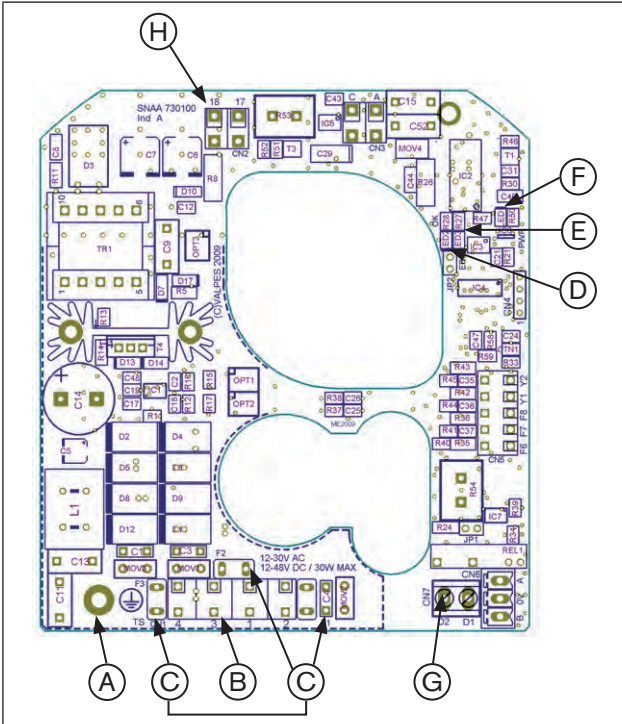
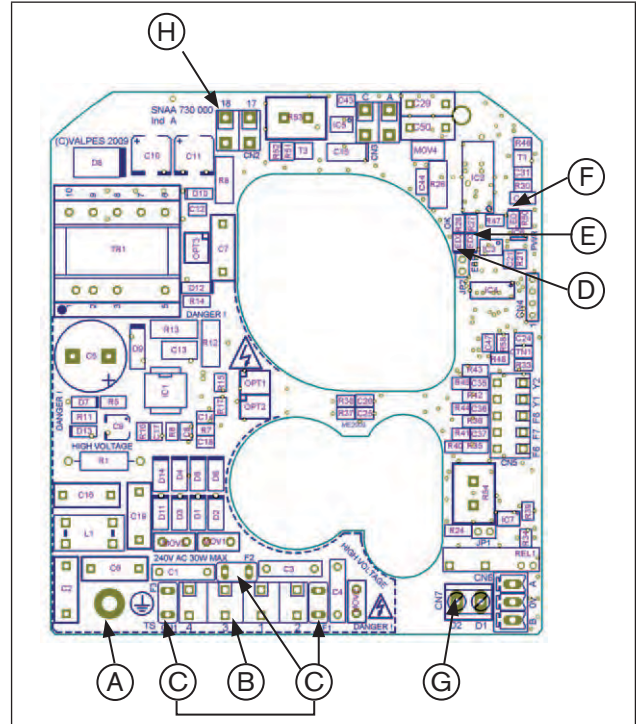
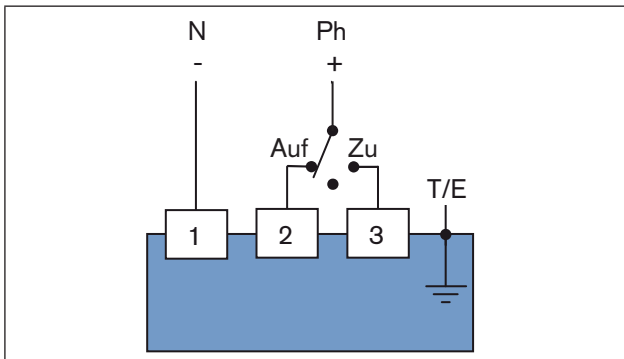
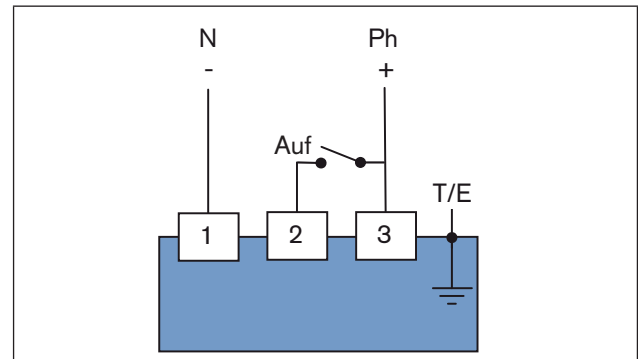

Figure 15: Power supply circuit board 15-30 V 50/60 Hz (12-48 V DC)
Figure 16: Power supply circuit board 100-240 V 50/60 Hz (100-350 V DC)
Figure 17: Three points mode
Figure 18: Open / Closed mode / Emergency current model
- To do this, loosen earthing screw and attach eyelet of the earthing cable with the earthing screw (see “Figure 15” and “Figure 16”).
- Connect cable according to the required control type (see “Figure 17” and “Figure 18”) to the terminal strip Pos. B of the power supply card (see “Figure 15” and “Figure 16”).
Operating principle for Open / Closed mode (see “Figure 18”) :